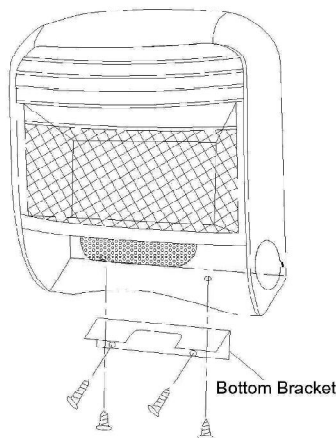

Figure 10 - Installing Bottom Bracket
Installing Bottom Bracket (See Figure 10)
3. Locate two bottom mounting holes on wall. These holes are near bottom on heater (see Figure 10).